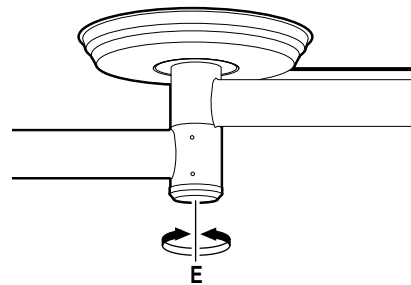

Figure 2-13.
a. Check the horizontal rotation axis tension by moving the Radial Arms through their full range of travel around the center mounting hub. Refer to figure 2-13.